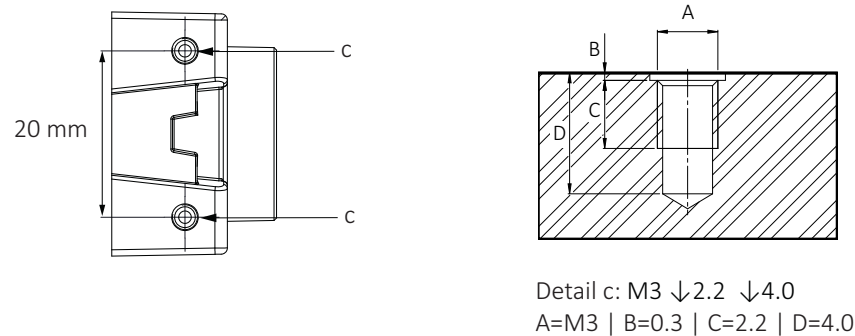

Figure 87: Top and bottom and mounting threads (c)
1. Mount the camera to the base using suitable M3 screws at 0.51 Nm maximum torque for a thread engagement (C) of 2.2 mm between screws and mounting threads, see Figure 87. For technical drawings, see Standard Alviium: Dimensions and mass on page 205.